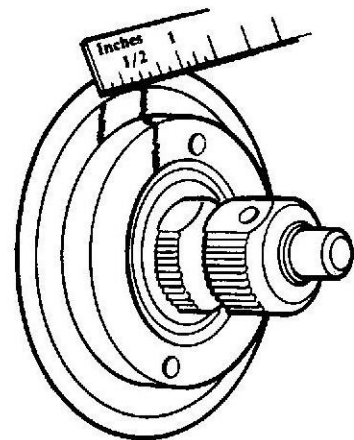
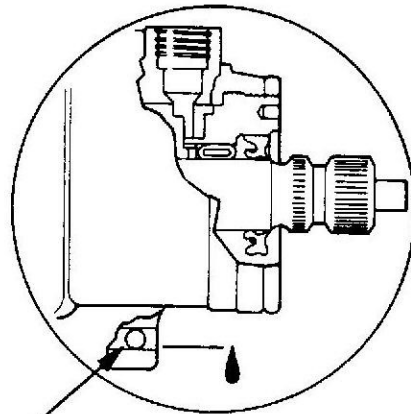

Fig. 1 Indexing Gear Housing
Fig. 2 Revised Steering Gear Leak Diagnosis and Corrective Action (View A)
B. On page 11-57 under subtitle "ASSEMBLY - STEERING GEAR HOUSING COMPONENTS," step (12) should be changed to read: Install end plug in rack piston. Tighten end plug to 75 foot-pounds (102 N•m) torque.
C. On page 11-58 under the subtitle "WORMSHAFT BEARING PRELOAD," step (3) should be changed to read: Measure counterclockwise one-half inch (13mm) from first index mark and remark housing. Refer to Figure 1 below.
D. On page 11-58 under the subtitle "PITMAN SHAFT OVERCENTER DRAG TORQUE," step (1) should be changed to read: Loosen locknut, turn pitman shaft adjuster screw (counterclockwise) until fully extended, then turn it back (clockwise) one full turn. Step (7) should be changed to read: Tighten pitman shaft adjusting screw locknut to 20 foot-pounds (27 N•m) torque after adjusting overcenter drag torque.
(11) Kink in Return Hose (11) Replace Return Hose.
B. On page 2L-12, fig. 2L-7, View A, the information referring to the ball plug should read as shown in fig. 2.
C. On page 2L-32 under subtitle "STEERING GEAR ASSEMBLY AND ADJUSTMENT," step (19) should be changed to read: Install end plug in rack piston. Tighten end plug to 75 foot-pounds (102 N • m) torque.
D. On page 2L-34 under the subtitle "WORM BEARING PRELOAD," step (3) should be changed to read: Measure counterclockwise one-half inch (13mm) from first index mark and remark housing. (Refer to fig. 1.)
(11) Kink in Return Hose (11) Replace Hose
B. On page 2L-12, figure 2L-7, View A, the information referring to the ball plug should read as shown in fig. 2.